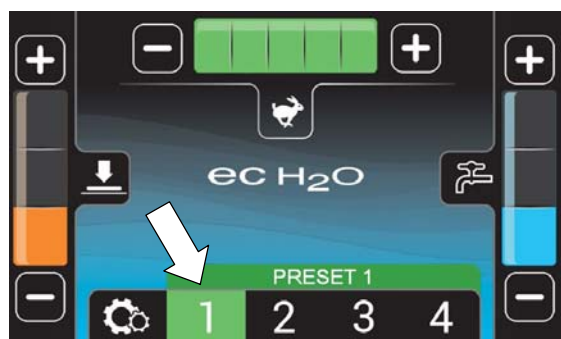

FIG. 53
8. Press the Zone Setting numbers for quick operation (Figure 53). The zone number will turn green when activated. Each Zone Setting number is factory configured with different solution flow rates, down pressures and maximum scrub speeds.